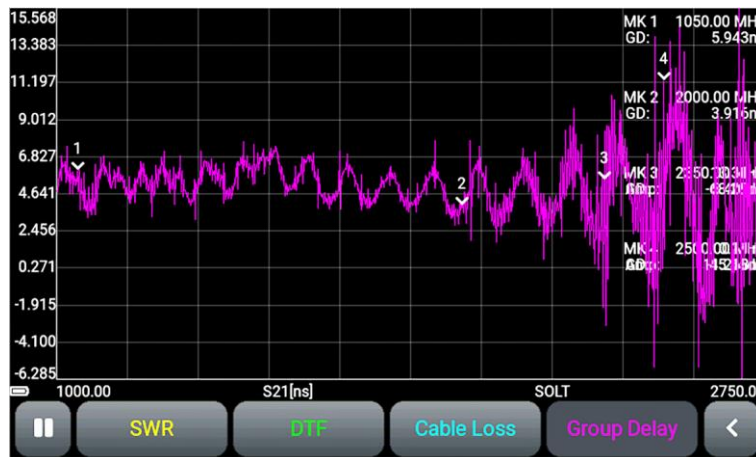

Figure 10.15 - Group delay plot
10.9. The group delay is the propagation time of the signal through the analyzed circuit. This signal delay will differ for different frequencies if the test device does not have a linear phase response (PFC). To determine the group delay of the signal phase in a certain frequency range, a plot is used (figure 10.15). By measuring the phase of parameter *S21*, the analyzer calculates the group delay of the test device. The resulting values are displayed in nanoseconds (ns).